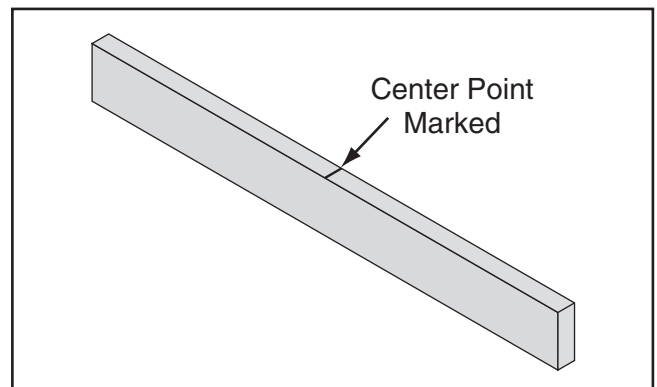

Figure 17. Center point marked on support board.
3. Mark the center point of the length of the support board (**Figure 17**).